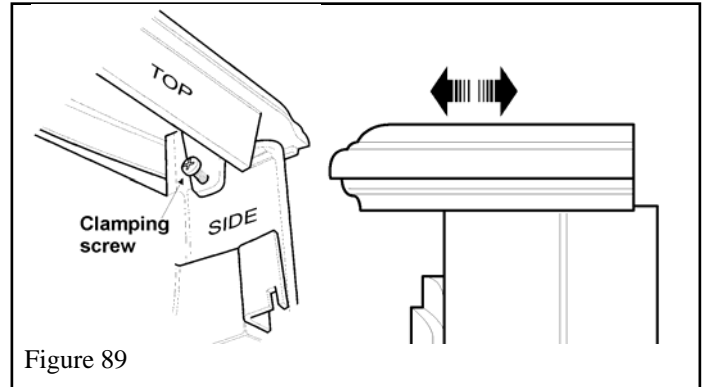

Figure 89
1. If tiling is to be applied right up to the sides of the front unit, the top of the front can be moved forward to allow the tiling to go behind the top. To move the top, slacken the clamping bolts, slide the top forward, retighten the bolts (See figure 89).